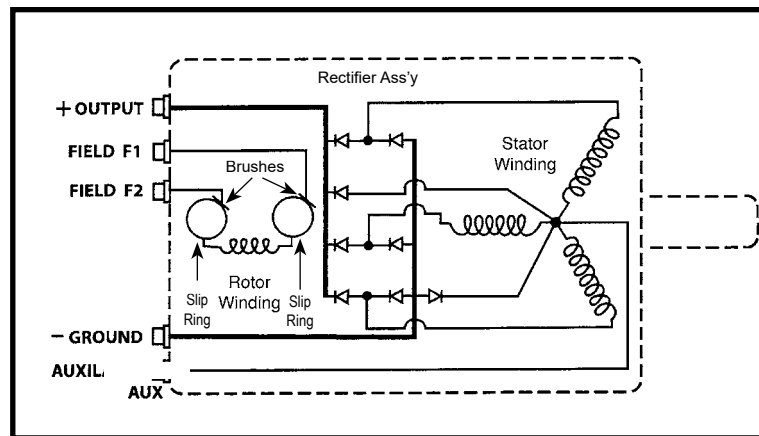

Figure 2.23 - Basic Diagram
- B. A simplified electrical diagram is shown in Figure 2.23 which shows the basic electrical operating points and connections.